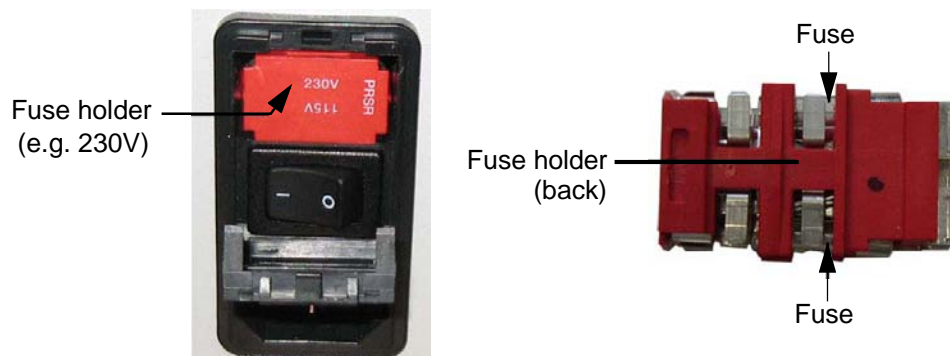

Figure 8-82 Change fuses of isolation transformer
- 2.) Push the fuse holder back into position (correct voltage should be shown in upper line e.g, 230V, see: Figure 8-82, above) and then close protection.